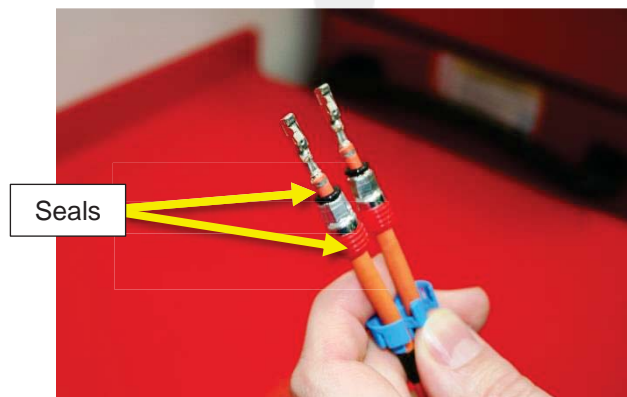

Figure 9
- Ensure that the wire harness seals in place before installing the new connector (Figure 9).